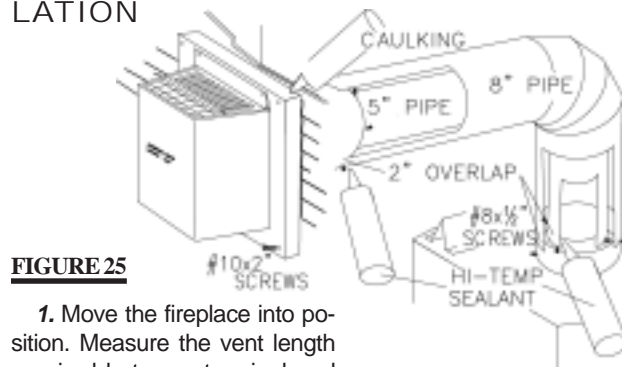

FIGURE 25
4. Apply high temperature sealant to the outer edge of the of the outside sleeve of the air terminal. Slip a 8" diameter coupler over the sleeve and secure as before. **FIGURE 25.** Trim the 8" coupler even with the 5" coupler end.